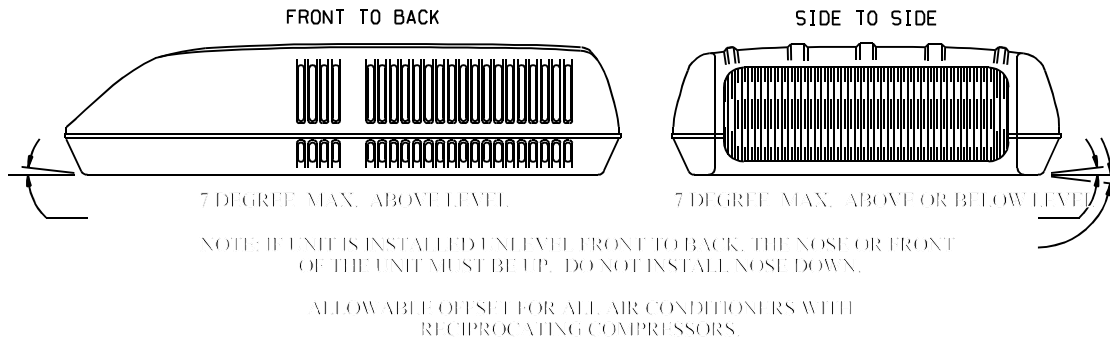

FIGURE 2
- D. The roof top air conditioner must be mounted as near level from front to rear and side to side as is possible when the vehicle is parked on a level plane. Figures 2 and 3 show maximum allowable degree deviations (mounting degrees from total surface flat plane).